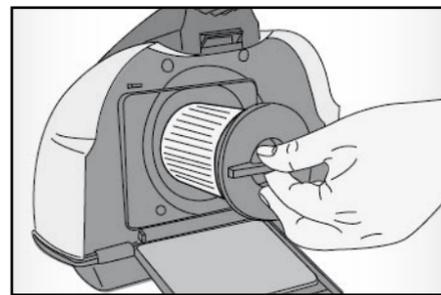

Fig. 8
- To clean the inside of the container (7), it is possible to remove the washable filter by turning it counterclockwise and pulling it outwards (Fig. 8).